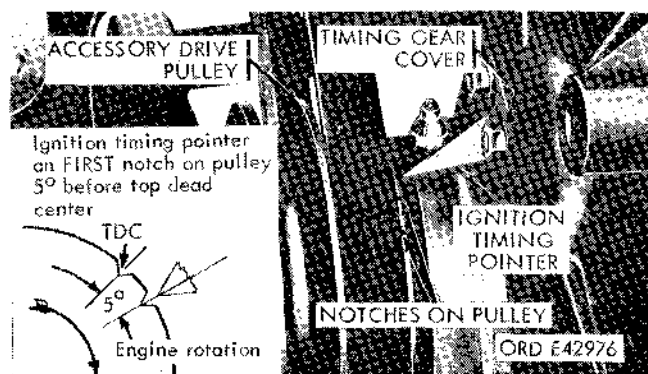

Figure 2-143. Ignition timing indicator.
(1) Clean, adjust, or replace the distributor points as necessary (para 2-122d).
(2) Remove the spark plug cable from the No. 1 spark plug; unscrew the coupling nut and screw on the spark plug testing adapter.
(3) Place the spark plug cable on top of the spark plug testing adapter.
(4) Fasten the clip of the red lead from the timing light to the terminal on the side of the spark plug adapter.
(5) Disconnect the battery harness at the generator regulator, and install the regulator testing adapter.
(6) Connect the harness to the adapter. Turn the voltage selector switch of the timing light to 24 volts.
(7) Connect the red gloved lead to either terminal on the adapter and the black gloved lead to a suitable ground.
(8) Apply chalk to the 5-degree BTC mark (fig. 2-143) on the crankshaft pulley to permit easy observation.
(9) With the engine running at idling speed (450 rpm), direct the beam of light down at the timing pointer on the timing gear cover. If the timing mark is aligned with the pointer when viewed with the timing light, the timing is correct.
(1) Turn the engine in small increments, using the starter (by momentarily depressing the starter button with the ignition switch in the OFF position), until the crankshaft pulley stops so that the top dead center (TDC) timing mark (fig. 2-143) is in line with the ignition timing pointer.
(2) Remove eight screws and lockwashers, and remove the cover and rotor.